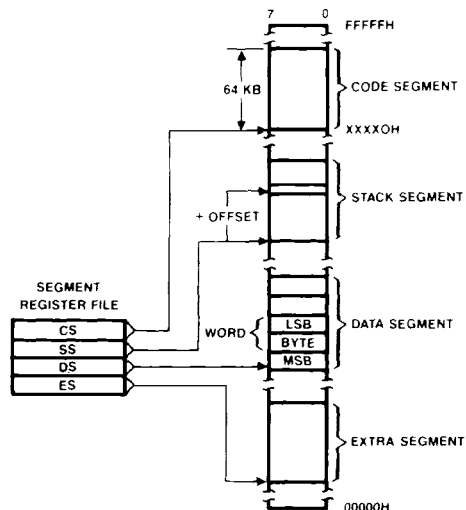

FIGURE 1. MEMORY ORGANIZATION
The processor provides a 20 bit address to memory which locates the byte being referenced. The memory is organized as a linear array of up to 1 million bytes, addressed as 00000(H) to FFFFF(H). The memory is logically divided into code, data, extra, and stack segments of up to 64K bytes each, with each segment falling on 16 byte boundaries. (See Figure 1).